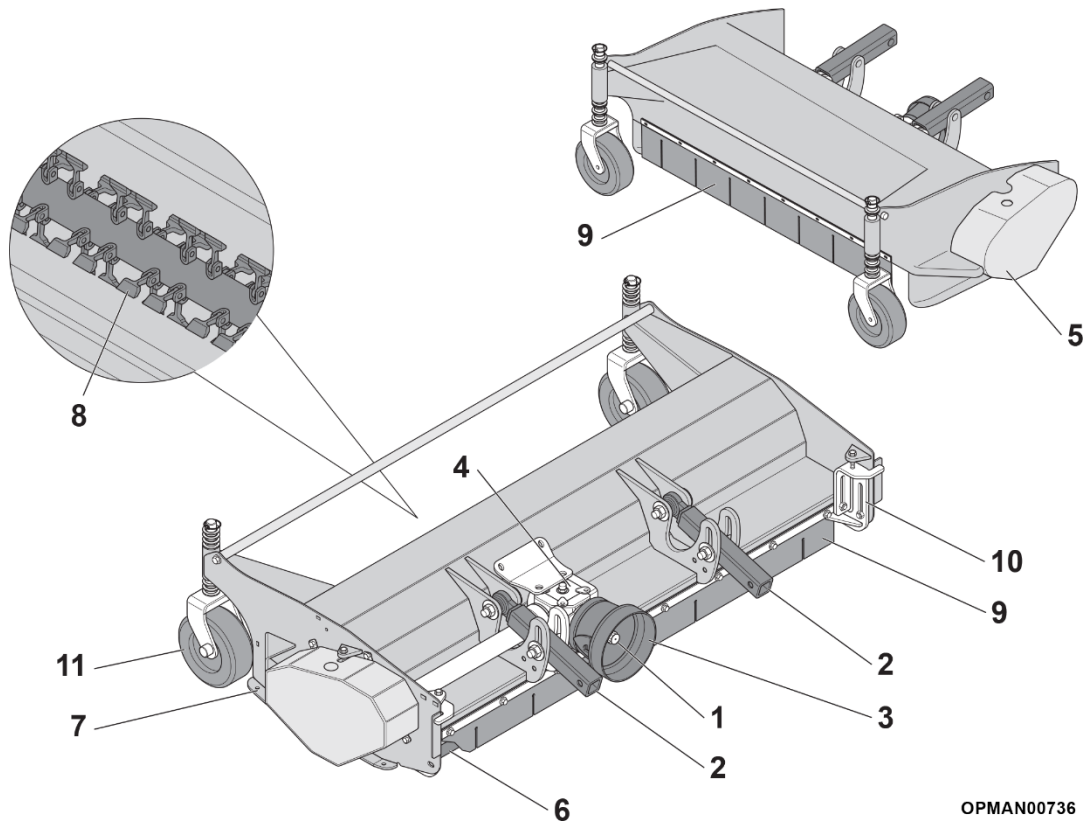

Figure 1
With reference to Figure 1, the Mower is a machine designed and built exclusively for maintenance of green areas or mowing directly on site by crushing crop residue. It must not be used for other uses or with other materials.
With reference to Figure 1, the Mower consists of a closed steel cowl structure in which a rotor with either hammer or y flails (8) and a rear roller (6) are installed to compact the terrain following the mowing phase. The machine can be applied to various types of tractor with the correct cowl or adaptors (2).